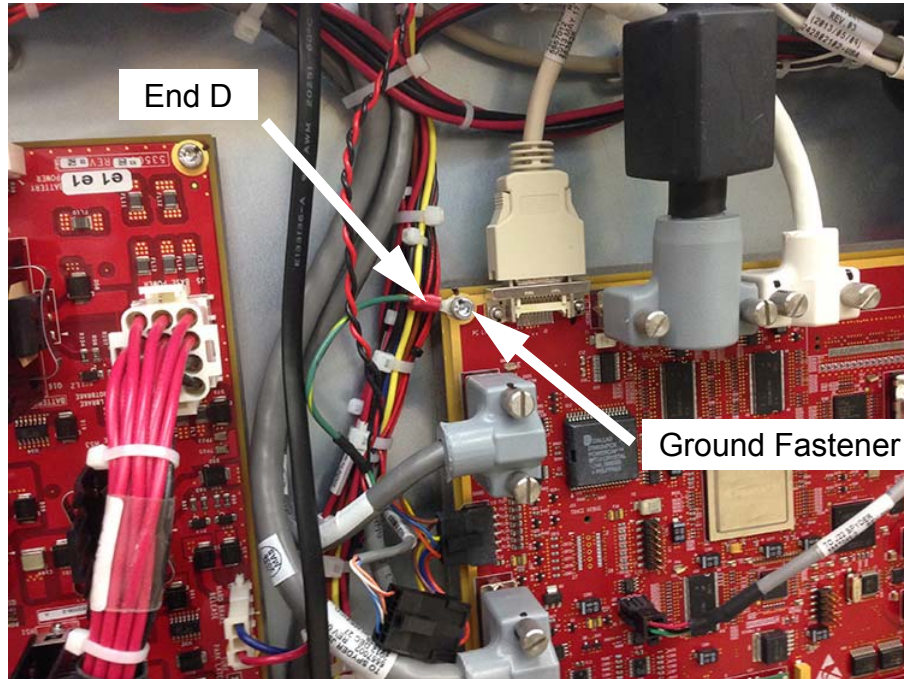

Figure 2-7 Ground connection
7. Remove the top-left mounting fastener on the Spyder board and mount the ground terminal, End D, of the main cable underneath the head of the fastener. See Figure 2-7.